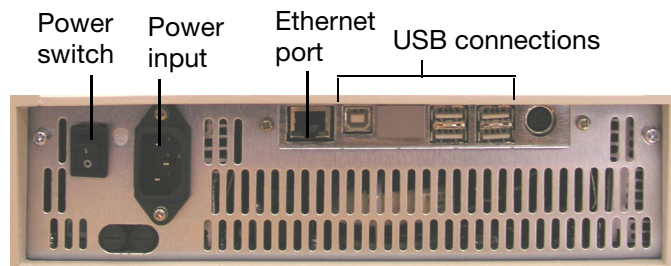

Figure 3. Back panel of C1000 thermal cycler.
The back panel of the C1000 chassis includes these features (Figure 3):
6. Plug the power cord into the back of the C1000 base (Figure 3) and into an appropriate three-pronged electrical outlet.
1. Connect the C1000 chassis to the computer by plugging a USB cable into the USB 2.0 A port located on the back of the chassis (Figure 3) and then connecting the cable to the USB 2.0 B port located on the computer.